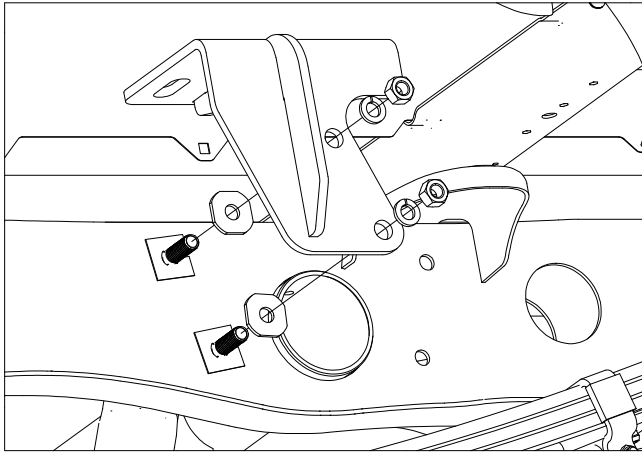

Figure B7: View looking into driver side wheel well.
6. **Install the rear side plates.** Locate the two rear side plates, four 1/2" lock washers, four 1/2" finish nuts, and four frame spacers. If your truck does not have overload brackets install a frame spacer onto each of the carriage bolts, if it does you may discard the frame spacers. Pass the top flange of the rear side plates over the frame and then pass the holes in the side plates over the carriage bolts. Secure the side plates with a 1/2" lock washer and nut, see Figure B7. Hand tighten hardware only at this time.